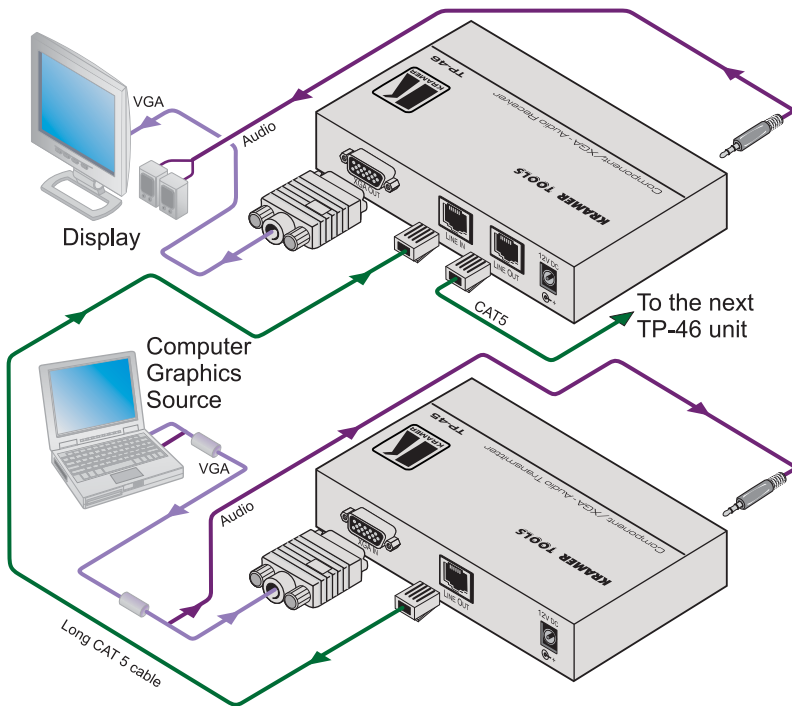

Figure 6: Component/XGA – Audio Distribution System, XGA Mode
To configure a **TP-45/TP-45RC** and **TP-46** Component/XGA – Audio distribution system¹ in the XGA mode, as illustrated in the example in Figure 6, do the following:
7. Connect the 12V DC power adapter to the power socket and connect the adapter to the mains electricity on both¹ the **TP-45** and the **TP-46** (not shown in Figure 6).